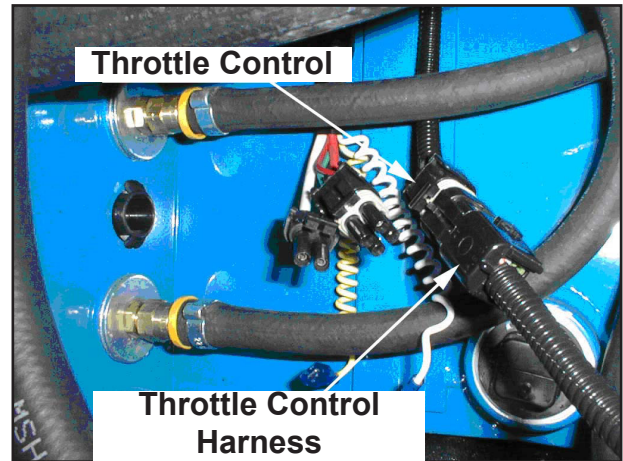

Figure 46. Connect Throttle Control Harness to 4 Pole Plug
5. Locate the 4 pole throttle control plug in the CDS wiring harness and connect the Throttle Control Harness to the plug. Refer to Figure 46.